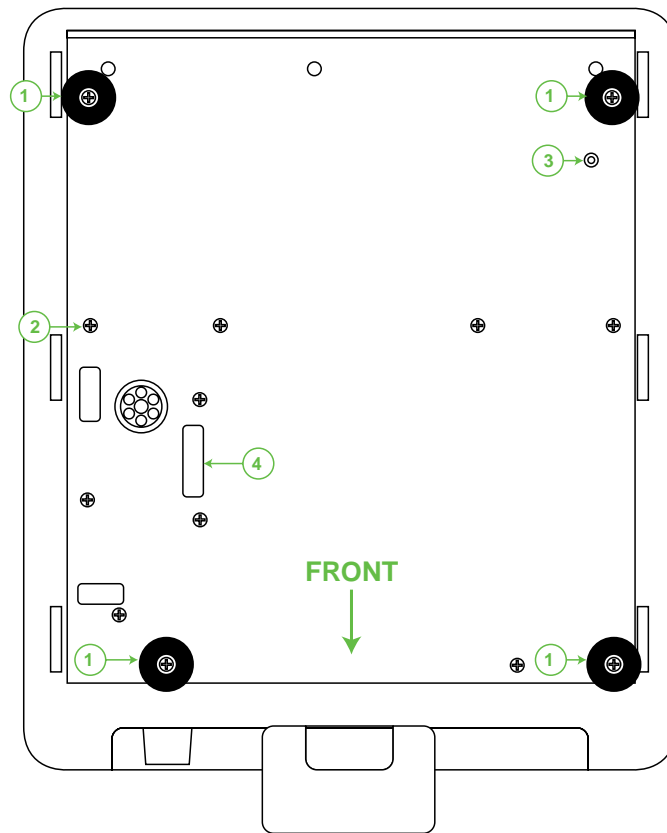
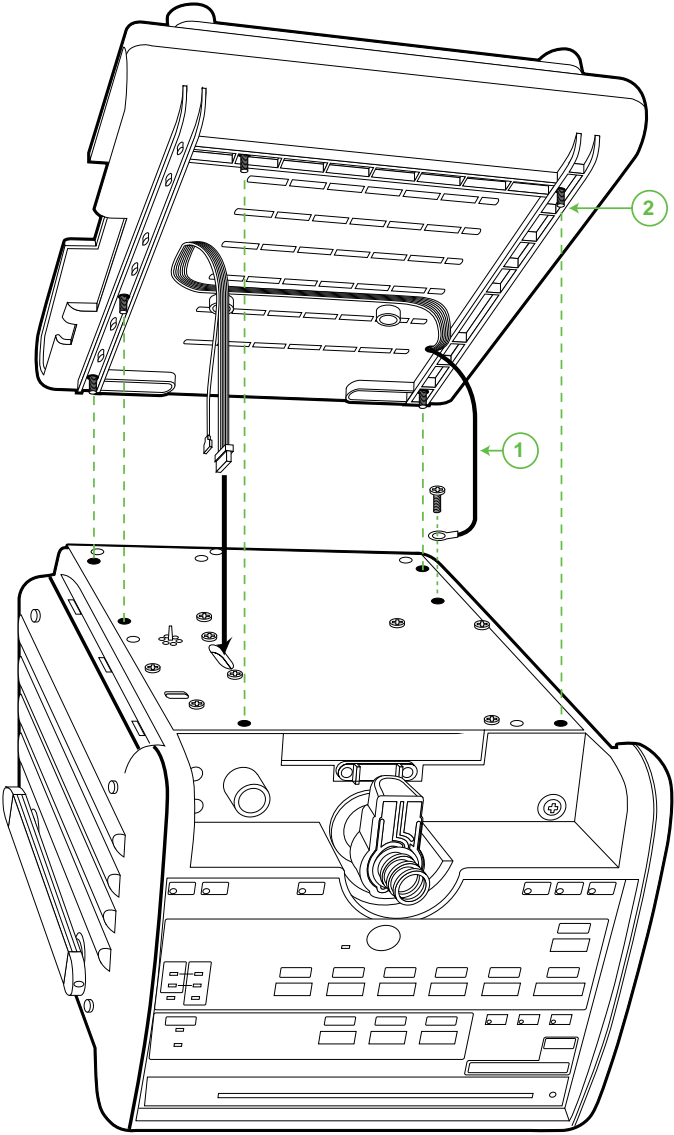

Figure 5-21. Ventilator Base
Figure 5-22. Docking Bay Assembly
3. Referring to Figure 5-21, remove the following from the base of the ventilator:
- Four (4) Rubber Bumpers – Ref. 1
- Two (2) Screws– Ref. 2 & 3
- 6. Using the screw provided, attach the green/yellow wire with the ring terminal to the nut insert indicated in Figure 5-22, Ref. 1.
8. Starting with the 8 position connector, pass the cables from the docking bay through the slot in the base of the ventilator indicated in Figure 5-22.
- 9. Referring to Figure 5-22, align the captive retaining screws Ref. 2 with the mounting inserts where the rubber feet and screw Figure 5-21, Ref 2 were removed and tighten with the Phillips screwdriver.